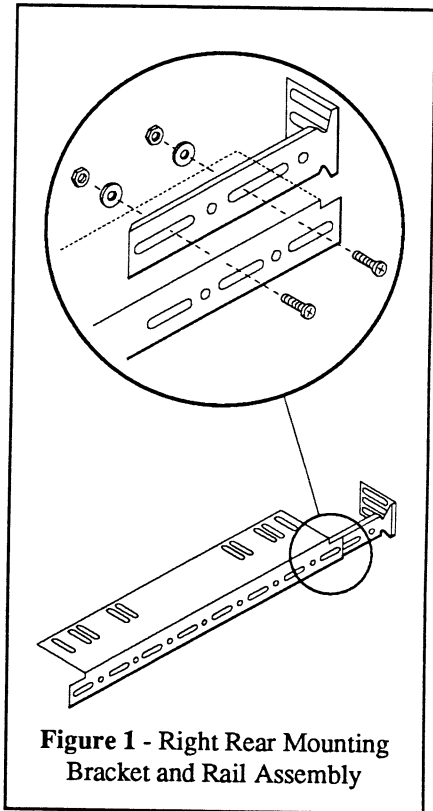

Figure 1 - Right Rear Mounting Bracket and Rail Assembly
3. Repeat steps 1 and 2 for the other side of the scope. Rotate the parts such that they are properly oriented to mount to the left side of the rack (mirror image to that as shown in Figure 1 for the right side).
4. Remove and save the (4) side bumpers from the left side of the scope.
5. Remove the (4) bottom feet from the scope. Store the bottom feet mounting screws away in a safe place, they are not used for rackmount systems.